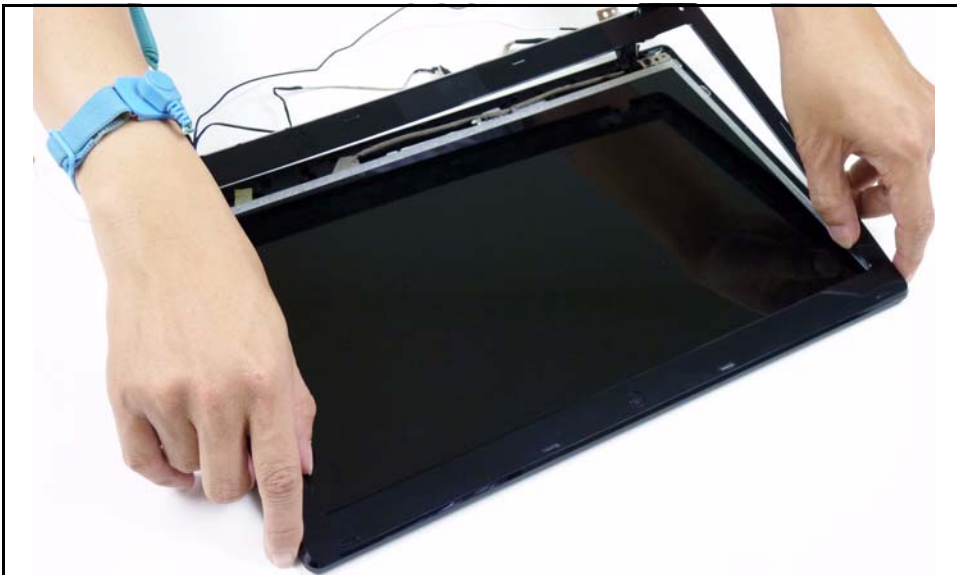

Figure 3-43. LCD Bezel
5. Lift the bezel from LCD module. (Figure 3-43)